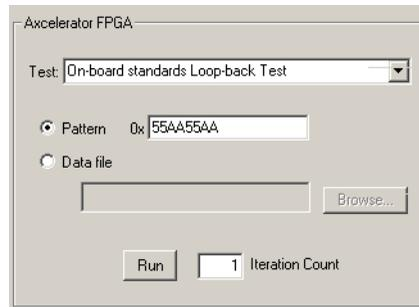

Figure 2-12. On-Board Standards Loop-Back Test
1. **From the Test selection bar in the Axcelerator Software window, select the On-board Standards Loop-Back Test.** See Figure 2-12.